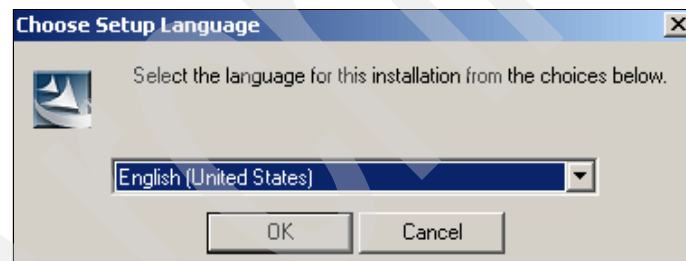

Figure 7-10 Setup LAN Console
1. After you insert the System i Access for Windows V6R1 DVD, the dialog shown in Figure 7-10 appears. Select the language you require, and click **OK**.